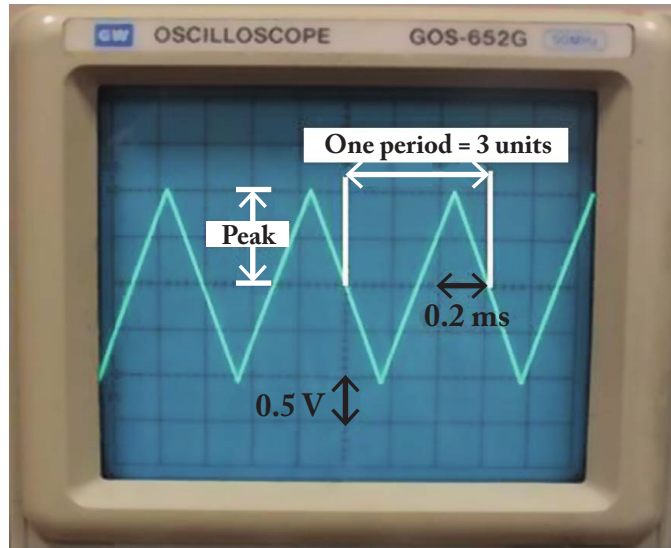

Figure 4.43: Calculation of peak and period.
**Solution:** According to the given information, one unit of x axis is 0.2 ms and one unit of y axis is 0.5 V. Since one period of the function is 3 units, then the period is  $3 \times 0.2 \text{ ms} = 0.6 \text{ ms}$  and frequency is  $\frac{1}{0.6 \text{ ms}} = 1.67 \text{ kHz}$  (see Fig. 4.43).
Peak value of the signal is 2 vertical units. Since VOLT/DIV is 0.5 V, the peak of the signal is  $0.5 \times 2 = 1$  V (see Fig. 4.43). So, the signal which entered to the oscilloscope, is 2 Vpp with frequency of 1.67 kHz. Since the signal is attenuated by factor of 10 by the probe, then the original signal which entered to the probe is 10 times bigger. So, the signal which probe measures is a triangular signal with peak to peak of 20 V and frequency of 1.67 kHz.